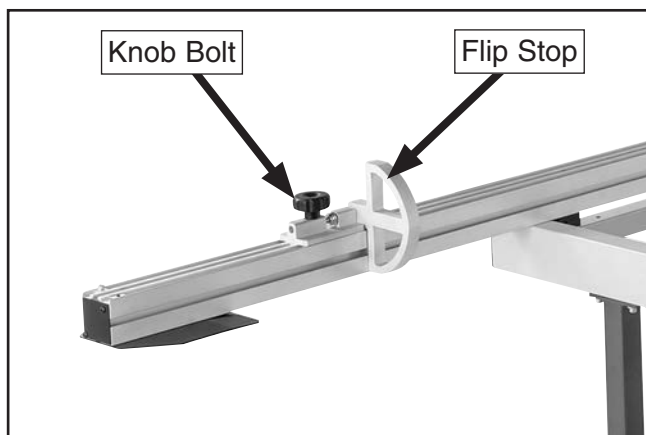

Figure 52. Flip stop installed onto crosscut fence.
51. Attach flip stop (see **Figure 52**) by threading knob bolt into T-nut previously installed in top T-slot of fence.